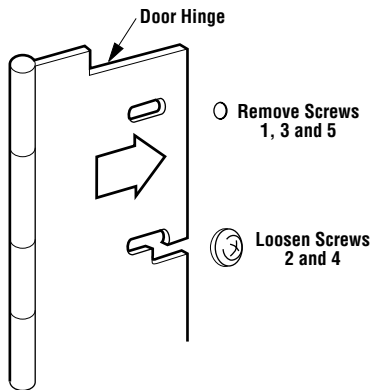

Figure 4
Step 1. Behind each screen assembly, on both sides of the firebox, there are five (5) screws that are oriented in a vertical fashion. Two (2) of these screws (2 per side) must be loosened and must remain in place. Remove the three (3) remaining screws (3 per side) from the fireplace and set aside (Figure 4).